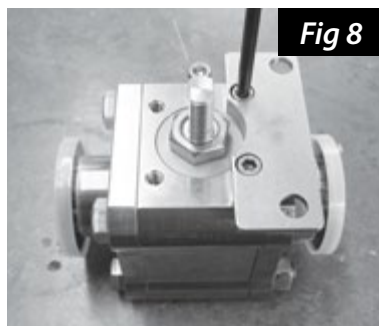

Fig 8
4. To finish removing the lock plate, use the 3/16" hex key to remove the two socket head screws securing the lock plate to the valve (Fig 8).